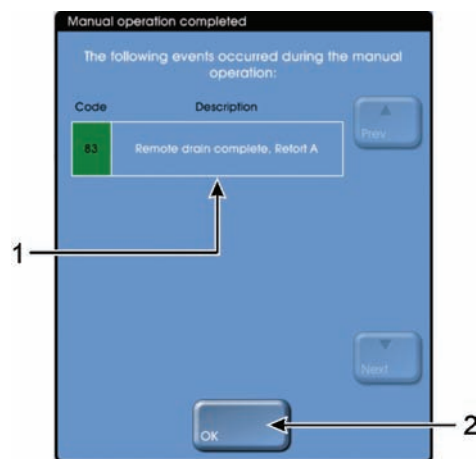

Figure 112: Event dialog box with drain complete event (1) and OK button (2)
Below the alarm popup an event dialog box will also indicate a "Remote drain complete" event (see Figure 112).
6. Select the **Clear all** button from the alarm popup (if active) then select the **OK** button from the dialog box to complete this procedure (see Figure 112).